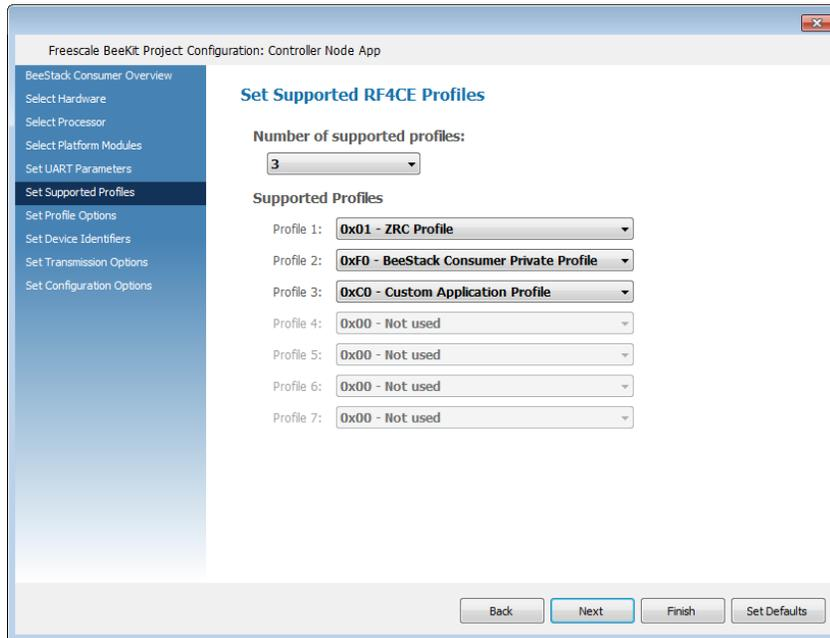

Figure 2-8. Set Supported RF4CE Profiles Page
4. Leave the default UART settings as is. The UART module are enabled on the USB port of the board. Click Next to go to the Supported RF4CE Profiles Selection wizard page shown in Figure 2-8.